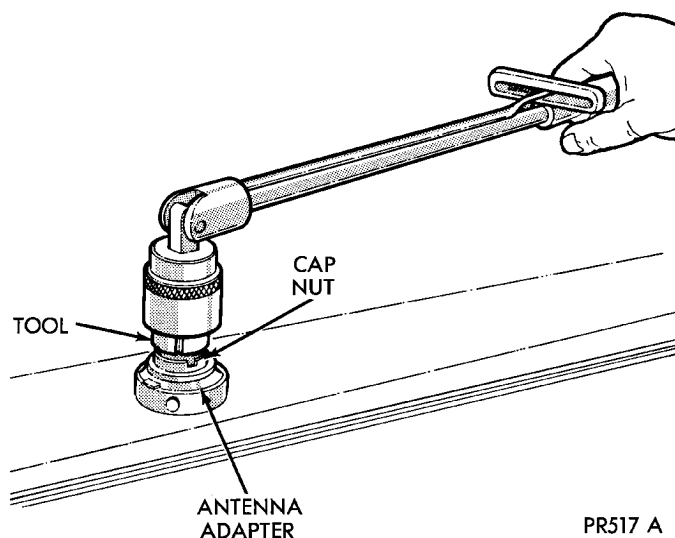

Fig. 18 Antenna Cap Nut and Adapter Remove/Install - Typical
(4) Remove the antenna cap nut and adapter using an antenna nut wrench (Special Tool C-4816) (Fig. 18).